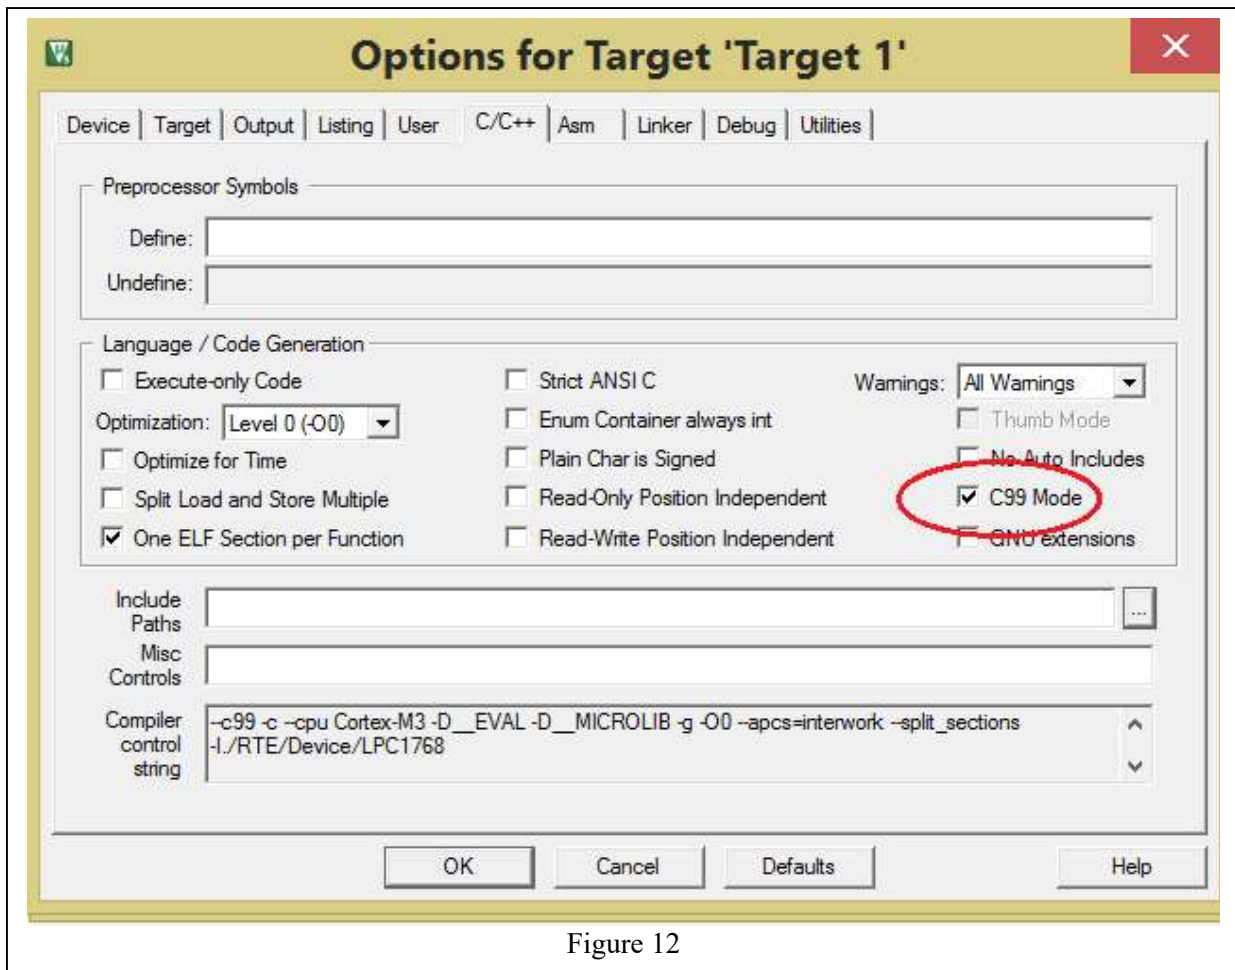

Figure 12
12. Select C/C++ and check **C99 Mode** option as shown in Figure 12.